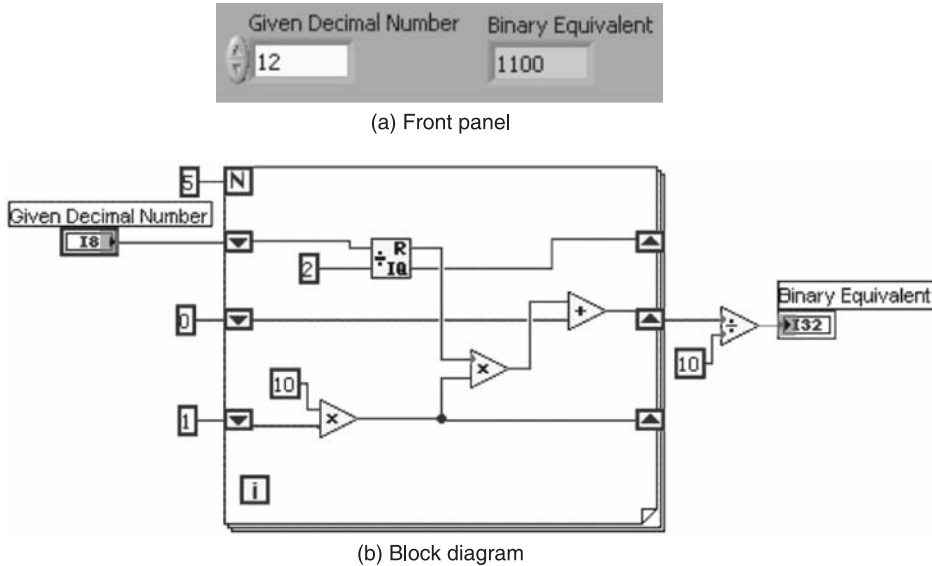

Figure P4.5
**Solution** The front panel and the block diagram to convert a decimal number to a binary number are shown in Figures P4.5(a) and P4.5(b).